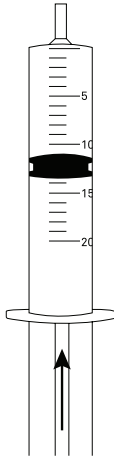

Figure 15 Fill reservoir syringe
- Turn the syringe upside down and remove residual air Figure 15.